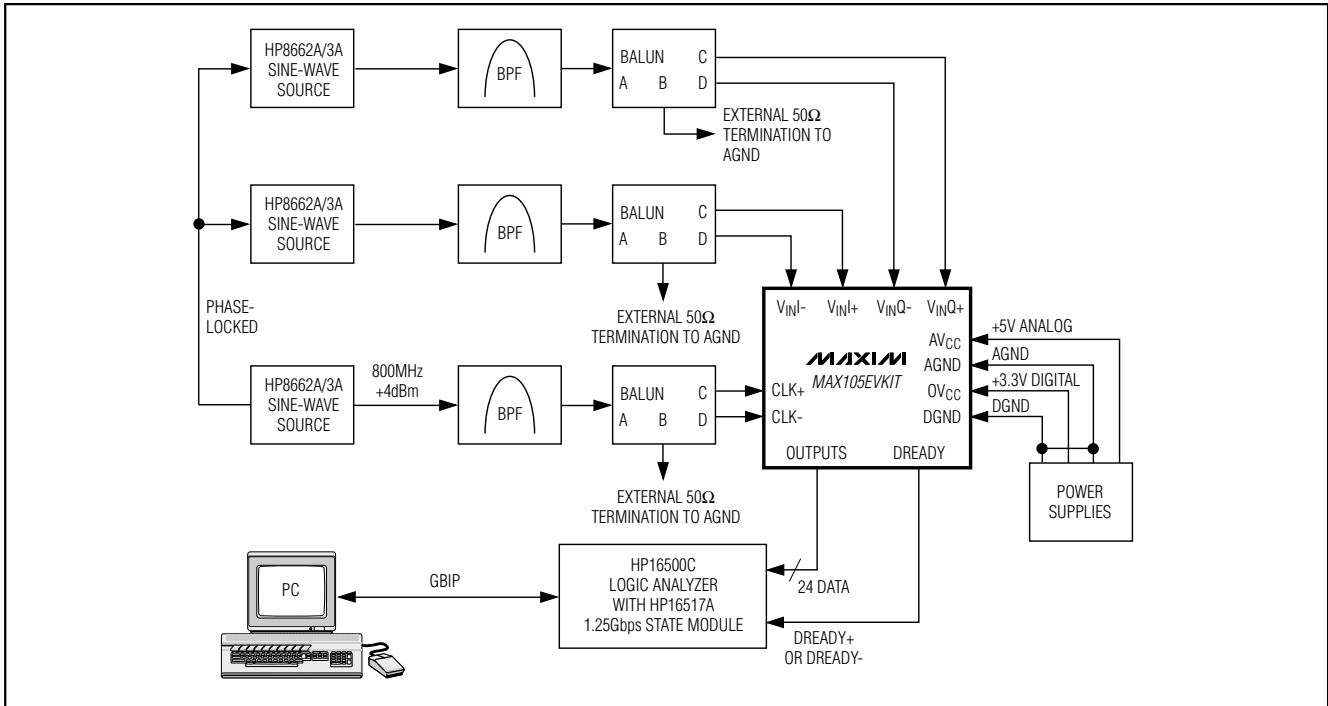
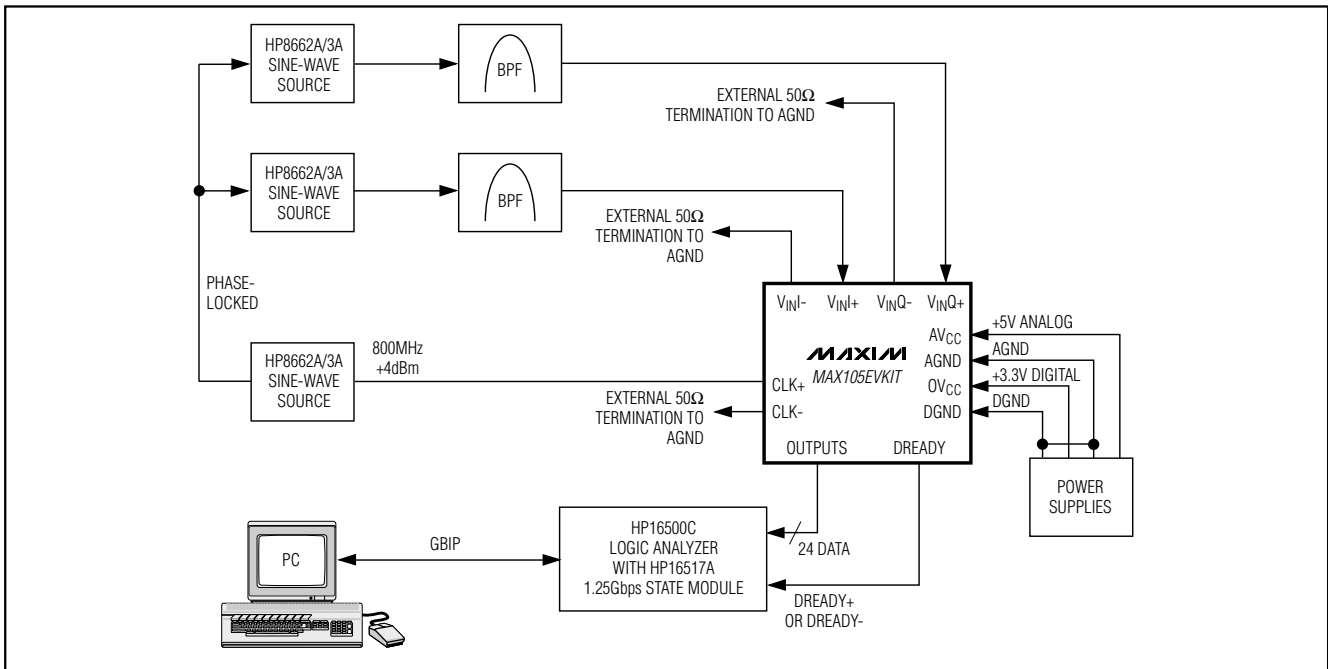

Figure 1. Typical Evaluation Setup with Differential Analog Inputs, Differential Clock Drive, and Single-Ended Data Capture
Figure 2. Typical Evaluation Setup with Single-Ended Analog Inputs, Single-Ended Clock Drive, and Single-Ended Data Capture
- 1) Connect a signal generator with low phase-jitter to the clock inputs CLK- and CLK+ through a balun (Figure 1). For a single-ended clock input (Figure 2), connect a 500mV (354mVRMS, +4dBm) amplitude from the signal generator to the CLK+ input and terminate the unused CLK- input with a 50Ω termination resistor to AGND.
- 2) For differential operation, connect a ±380mV 270mVRMS (approximately -0.5dB FS) sine-wave test signal to connector A of the balun. Terminate connector B of the balun with a 50Ω terminator. Attach connector C of the balun to the analog input VINI+ (VINQ+). Attach connector D of the balun to the analog input VINI- (Figure 1). For single-ended operation, apply the test signal to either VINI+ (VINQ+) or VINI- (VINQ-) and terminate the unused input with a 50Ω resistor to AGND (Figure 2). For best results, use a narrow bandpass filter designed for the frequency of interest to reduce the harmonic distortion of the signal generator.